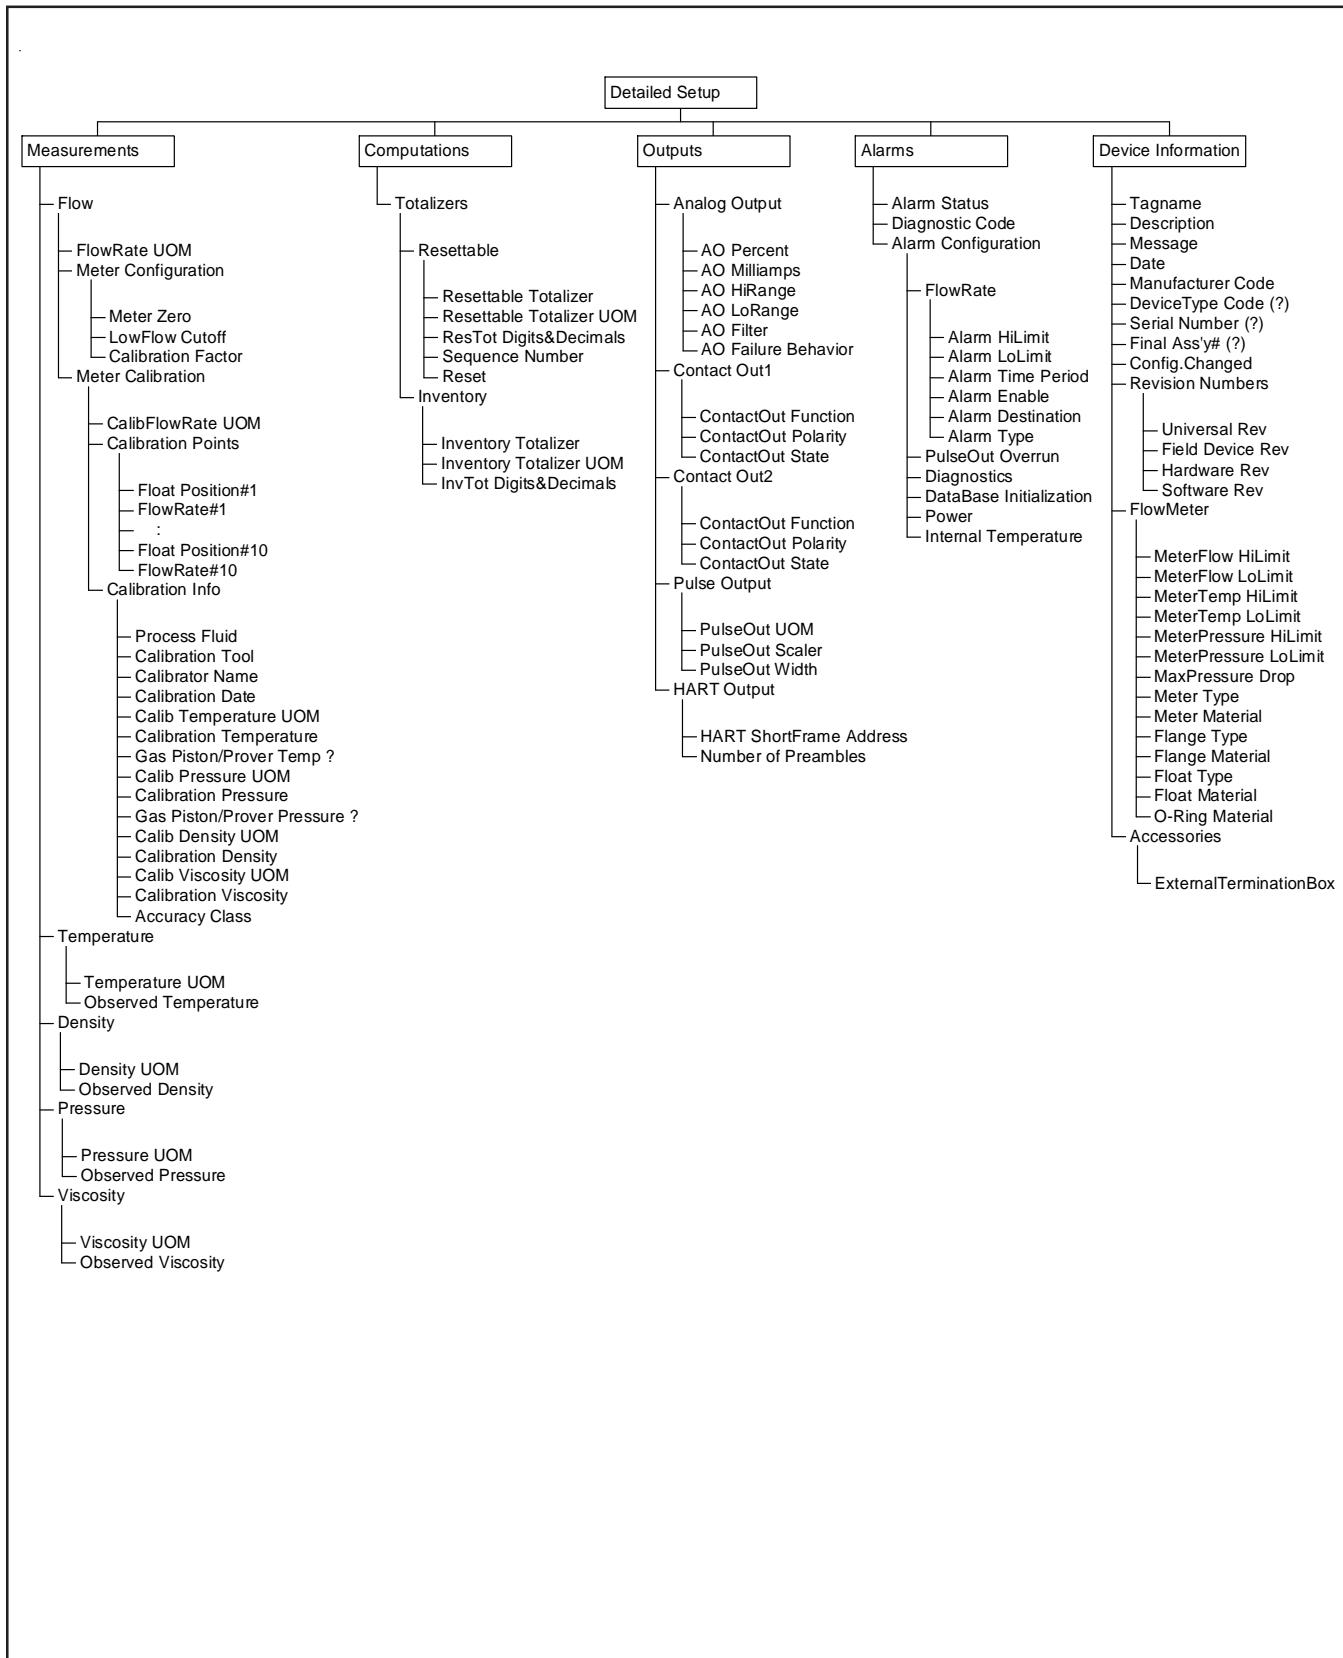

Figure 3-2 Model MT 3810 SMM Electronics Device Description Tree (Detailed Setup)
7. Under actual flow conditions, verify that the transmitter output matches the mechanical pointer position. If a discrepancy is noted, the HART communications channel can be used to verify or adjust the transmitter settings. The Emerson Model 275 hand held communicator provides a simple means to accomplish this check anywhere in the loop. Refer to Figure 3-2 for connection instructions.
9. Under actual flow conditions, verify that the transmitter output matches the mechanical pointer position and that the alarms and pulse outputs are working properly. If a discrepancy is noted, the HART communications channel can be used to verify or adjust the transmitter settings. The Emerson Model 275 hand held communicator provides a simple means to accomplish this check anywhere in the loop. Refer to Figure 3-2 for connection instructions.
- 10.Under actual flow conditions, verify that the transmitter output matches the mechanical pointer position. If a discrepancy is noted with the transmitter, the HART communications channel can be used to verify or adjust the transmitter settings. The Emerson Model 275 hand-held communicator provides a simple means to accomplish this check anywhere in the loop. Refer to Figure 3-2 for connection instructions.